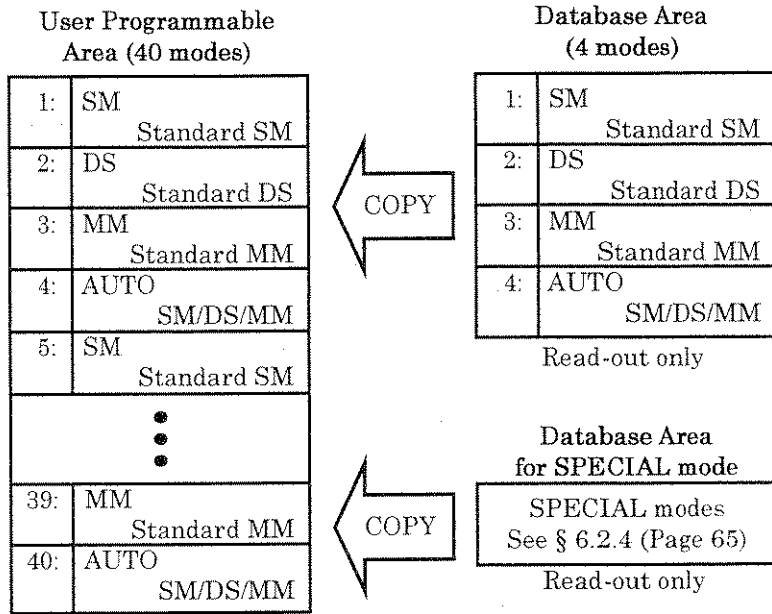

Fig. 6-4. User Programmable Area & Database Area
(3) The SM, DS, MM, AUTO and SPECIAL modes are stored in the "Database Area" as shown in Fig. 6-4. The splice modes stored in this "Database Area" cannot be changed. Alternatively, the above-mentioned 40 splice modes are stored in the "User Programmable Area" that enables the user to change them freely. At the time of shipping from factory, the SM, DS, MM and AUTO modes in the "Database Area" are copied onto the "User Programmable Area".
Fiber Type	<ul style="list-style-type: none"> • Select an appropriate fiber type out of those in the SM / DS / MM / AUTO mode, referring to Fig. 6-3 (Page 58). • When the [Fiber Type] is changed, all settings in the splice mode being edited are initialized. When initializing a new fiber type, the splice mode stored in the "Database Area" of Fig. 6-4 (Page 59) is overwritten on the splice mode being edited. Always set the [Fiber Type] before attempting to change other settings. • For details of splice mode initializing or rearrangement, refer to § 6.2.9 (Page 86).